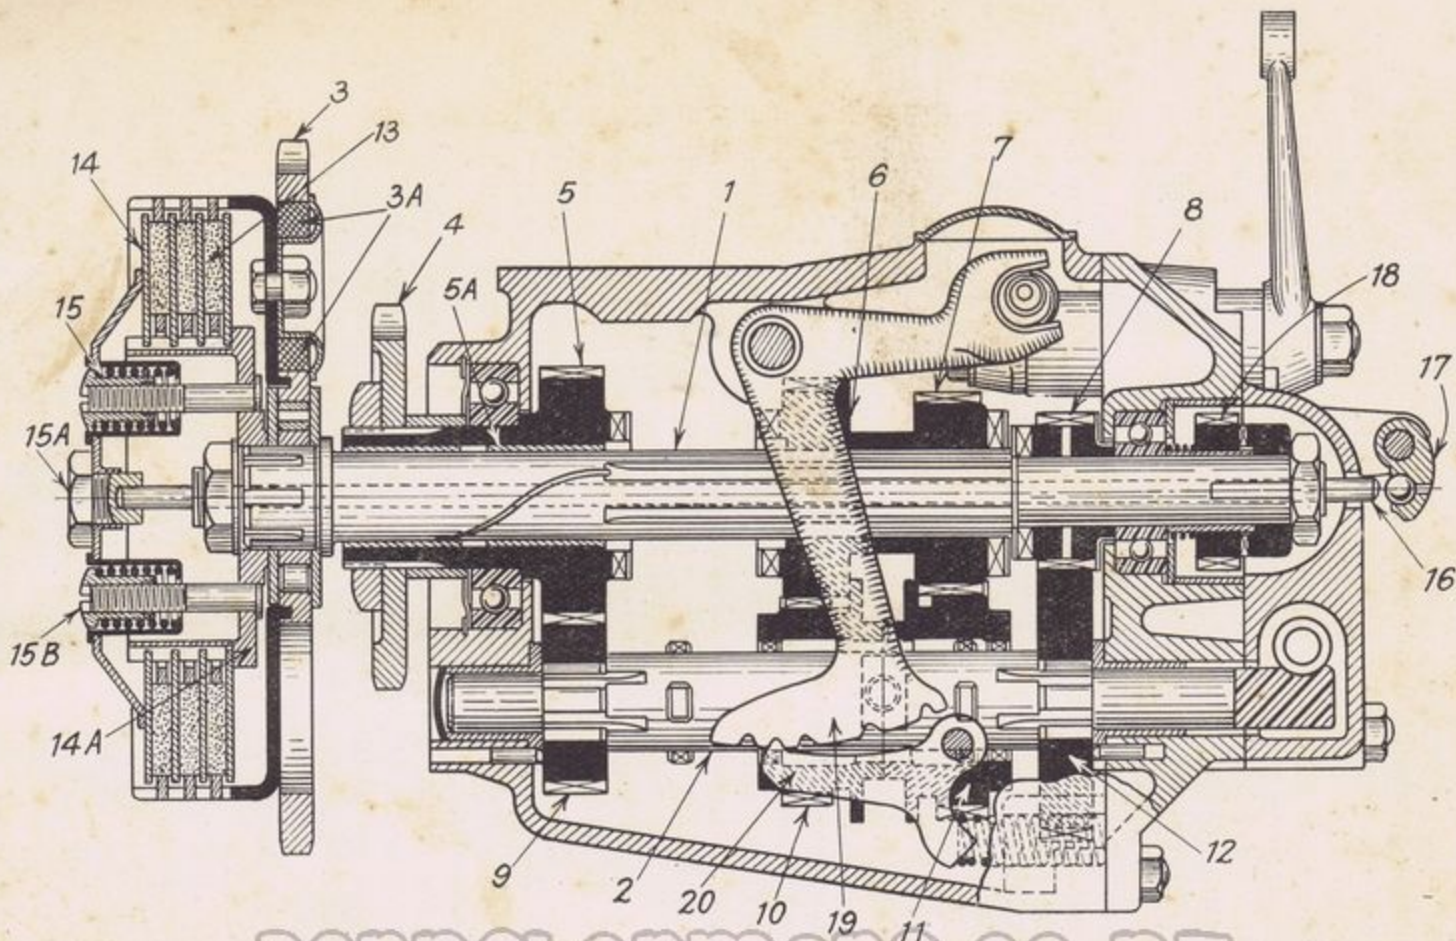

FIG. 90. SECTIONAL VIEW OF BURMAN 4-SPEED GEARBOX AND CLUTCH
The three-speed Burman gearbox (type "WP") has a two-plate clutch and the four-speed model (type "HP") a three-plate clutch. Both gearboxes are of very similar design and have constant-mesh gears of oil-toughened nickel-chrome steel (not case-hardened), the necessary gear changes being obtained by means of dog clutches and locked by a patent rack and pawl mechanism (see Fig. 90) actuated by a bell-crank lever. The kick-starter is not mounted on the layshaft, but on a separate shaft, thus allowing a good second gear ratio to be obtained for starting purposes. The drive is taken through the mainshaft. The clutches are of the multiple-spring type with alternate cork-inserted and plain steel plates, the outer clutch spring plate having a recessed adjusting screw against which the floating plunger in the hollow mainshaft bears. Unlike the Sturmey-Archer clutches, the springs are adjustable for tension and a shock-absorber is fitted in such a way that the drive is transmitted from the clutch sprocket to the clutch through rubber buffers which give a radial movement of approximately $\frac{3}{16}$ in. As may be seen in Fig. 90, to allow for expansion of the buffers dished recesses are provided.
Referring to Fig. 90, the action of the four-speed gearbox will be seen to be very simple. The mainshaft is splined for its whole length and the layshaft for only two short distances. Pinions 6, 7, 10, 11, are moved simultaneously by the striker 19 and pinions 9, 12 are keyed to their shafts. To obtain neutral the four sliding pinions are moved into the position shown, where both layshaft pinions are free of the layshaft splines. To obtain first gear the sliding pinions are moved to the extreme right so that the dogwheels 7, 8 are coupled and the drive is transmitted from the mainshaft to the gearbox sprocket 4 through pinions 8,
Burman Clutch Adjustment. If clutch slip occurs, first suspect the clutch cable adjustment and if necessary adjust until there is the requisite $\frac{1}{32}$ in. clearance between the clutch rod (16, Fig. 90) and the ball in the actuating lever (17). If the cable adjuster is already screwed right home, the necessary clearance can be obtained by unscrewing the adjuster screw (15A) a trifle. Should clutch slip persist, it is probable that the spring adjuster nuts (15B) require tightening up and each of these should be given half a turn, when a retrial should be made. If necessary, repeat, but be careful to tighten all the nuts uniformly. The correct adjustment is normally seven complete turns from right home.
Should the clutch become difficult to free in spite of the cable not having stretched, wear may have occurred on the clutch rod, in which case the adjusting screw (15A, Fig. 90) should be slightly tightened up. The trouble may, however, be due to the clutch springs being over-tightened. A tendency for the clutch spring adjusting nuts to become unscrewed means that the springs have become fastened by means of mud or rust to the nuts, and the remedy is to clean the springs and nuts and also to polish the ends of the springs and grease them. If relative movement develops between the clutch sprocket and case, it indicates that the rubber buffers (3A) are worn and require renewal. A tendency for both the clutch sprocket and case to "rock" from side to side indicates that the roller race inside the clutch sprocket needs a new set of rollers. Only $\frac{1}{8}$ in. end play is permissible. Excess play
unscrew the spring adjusting nuts (15B, Fig. 90) and remove the springs, spring cups, and take off the spring plate, when the other plates may be withdrawn. If desired, the complete clutch assembly may be removed after taking off the spring plate by unscrewing the nut holding the clutch body on the castellated mainshaft.